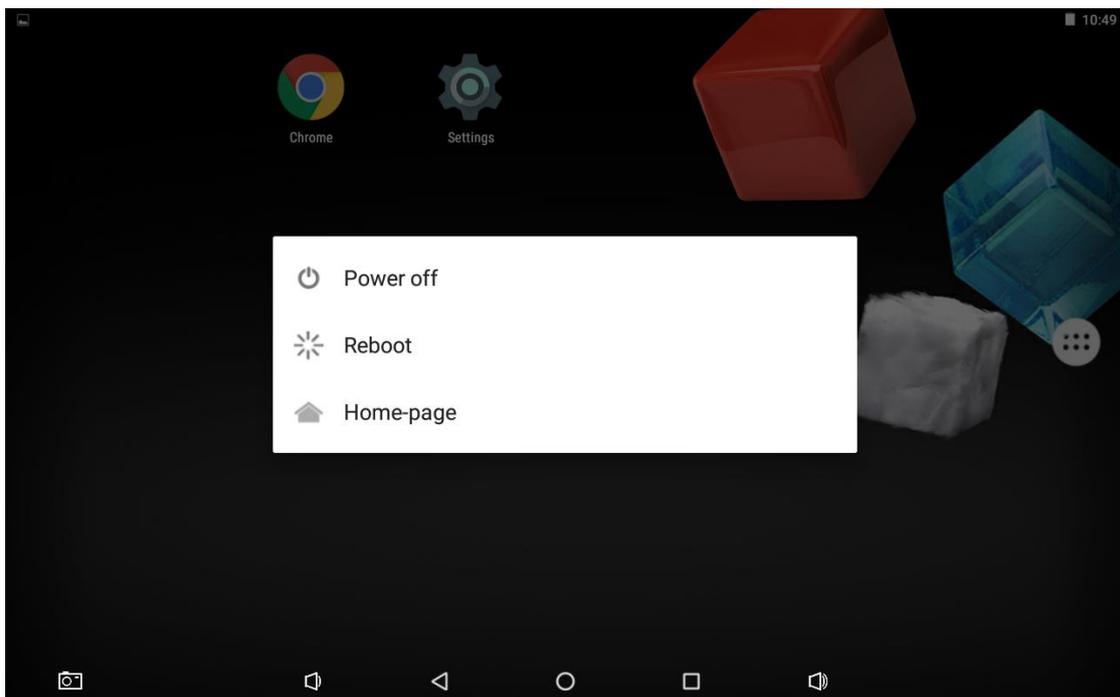

Figure 27: Using a Hidden Control Button
Press the Control button (5). The Power/reset pop-up screen appears (see Figure 27): If Home-page Exit is not password protected , switch to Home-page. If Home-page Exit is password protected (see Defining Control Button Password Protection on page 26), enter the correct password and switch to Home-page.	Press rear-side power button (8). Power/reset pop-up screen appears (see Figure 27). Go to Home-page. Or: Click power-off and wait for system shut-down. Press rear-side power button to power on. The Touch Panel powers up. Go to Home-page.